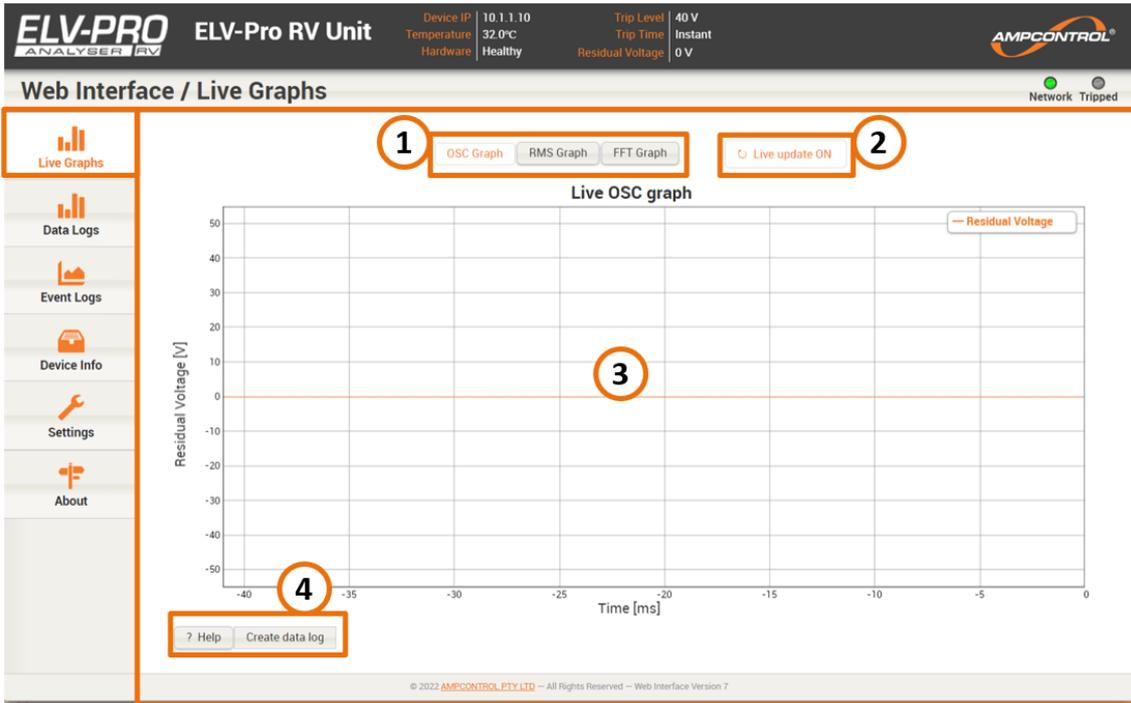

Figure 30: ELV-PRO RV Web Interface - Live Graphs (OSC)
- **OSC (Oscilloscope) graph:** Plots the instantaneous values of residual voltage measured by the ELV-PRO RV. At every update, it displays the last 80ms of data, Figure 30.